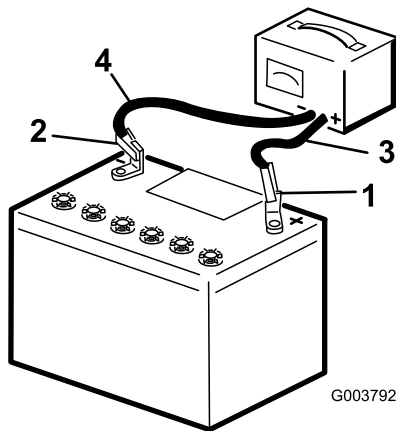

Figure 50
2. Charge the battery for 4 to 8 hours at a rate of 3 to 4 A (Figure 50). Do not overcharge the battery.
3. When the battery is fully charged, unplug the charger from the electrical outlet, then disconnect the charger leads from the battery posts (Figure 50).